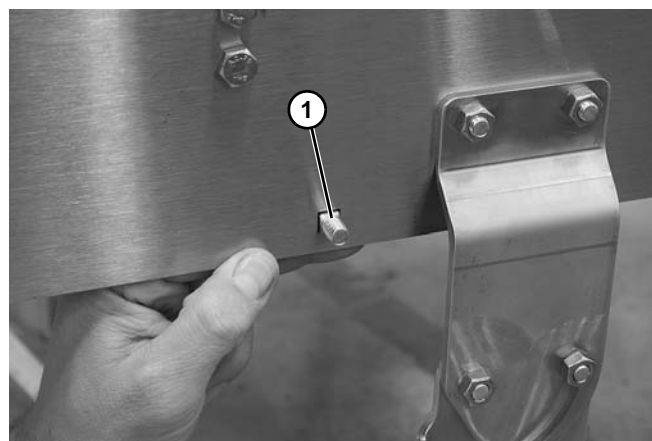

Figure 21
1. Install carriage bolt (**Figure 21, item 1**) through frame rail.